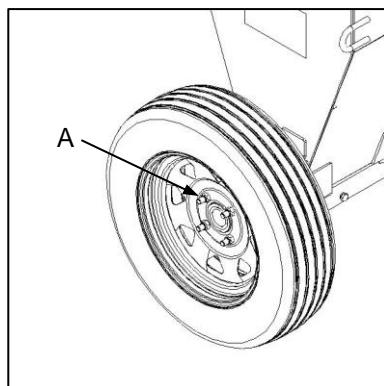
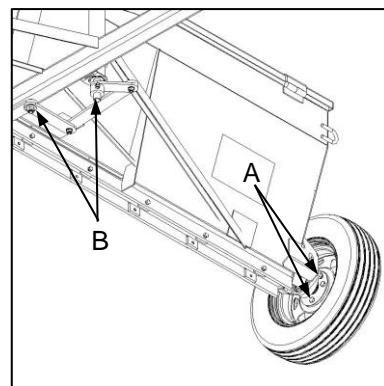

Fig. 1
Fig. 2
- ✓ Check all fasteners for tightness, including wheel nuts (Fig. 1-A), wheel bearing mountings (Fig. 2-A) and linkage bolts (Fig. 2-B).
- ✓ Verseker dat alle hegstuks is, insluitend wielmoere (Fig. 1-A), wielkoeëllaermonterings (Fig. 2-A) en skakelboute (Fig. 2-B).